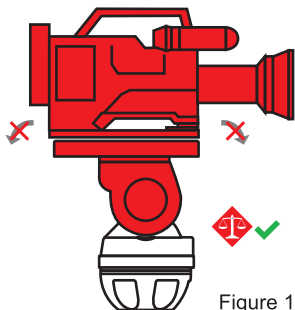

Figure 1
2. Hold the pan bar firmly, disengage the tilt brake. Observe how the payload moves and where it stops. If the platform stops in a horizontal position (camera pointing directly forward) or falls away evenly in either direction, the balance is correct. (Figure 1)